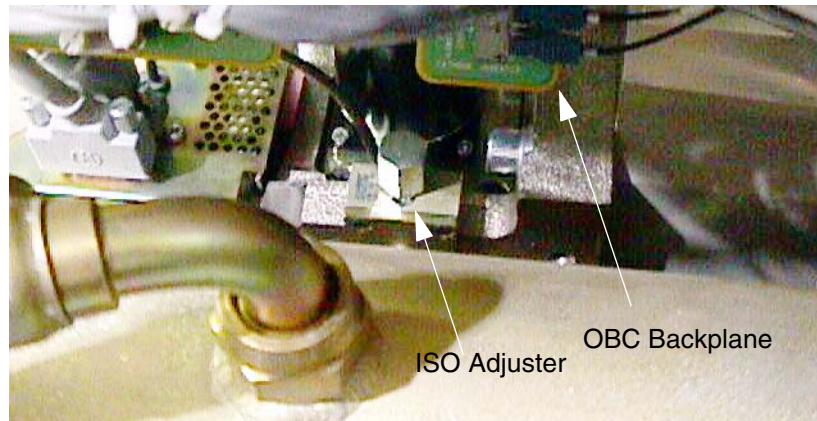

Figure 31 - ISO Alignment Adjuster
- 9.) Adjust the tube UP / DOWN as indicated by the calculation. The adjustment bolt is located on the top of the tube - Please see Figure 31.